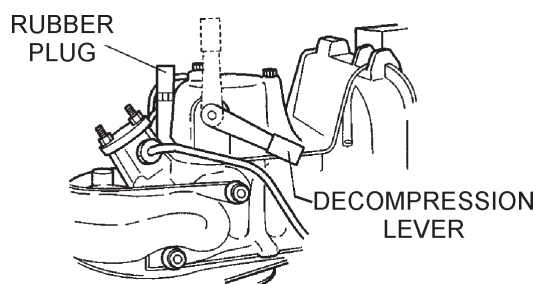
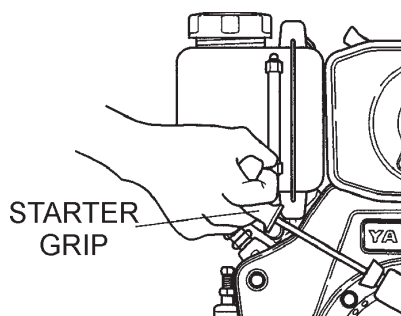

Figure 16. Decompression Lever
Figure 17. Recoil Starter Grip
- Remove the rubber plug (Figure 16) on the rocker arm cover and add about 2 cc of lube oil. Reinstall rubber plug.
- Push the decompression lever down (non-decompression position, Figure 16) and hold it while you pull the recoil starter grip (Figure 17) 2 or 3 times. **DO NOT** start the engine.